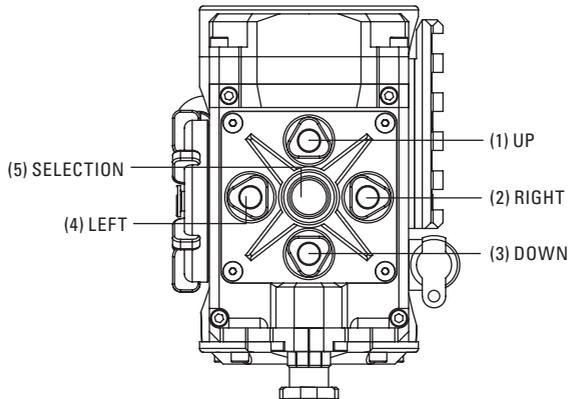
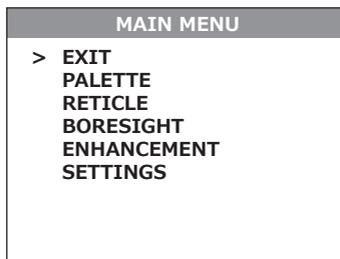

FIGURE 3-9. MAIN MENU NAVIGATION BUTTONS
FIGURE 3-10. MAIN MENU
To display the MAIN MENU, push and hold down the MENU button (5) on the control panel (Figure 3-9).
Once the MAIN MENU is displayed (Figure 3-10), use the UP and DOWN buttons (Figure 3-9) to navigate through the items on the menu.